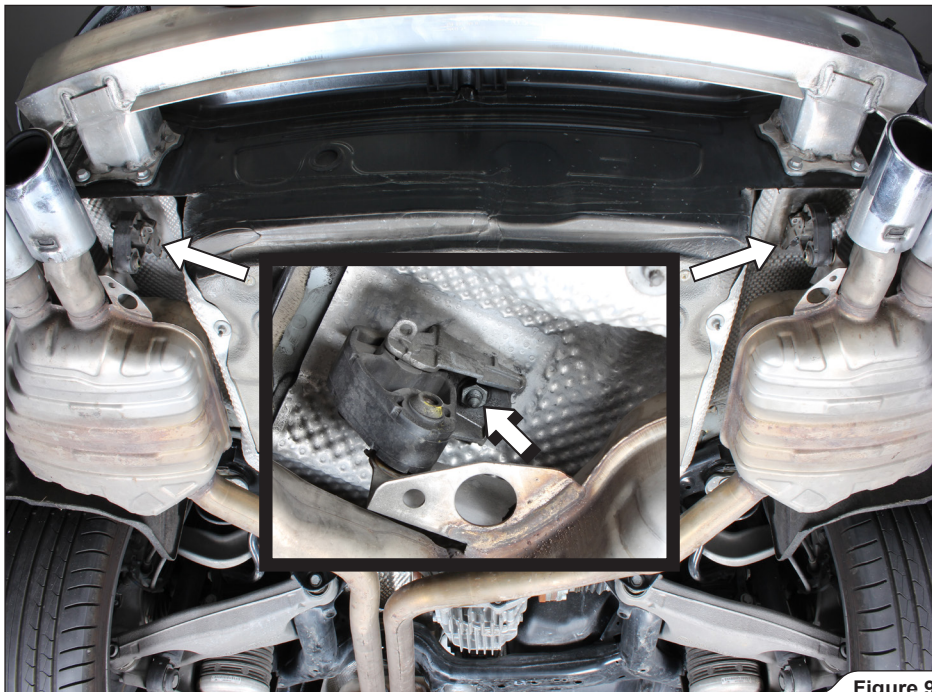

Figure 9
- Support the mufflers, unscrew the marked bracket nuts, pull the pre-muffler's rubber brackets off the pins and carefully remove the mufflers off the vehicle (**Figure 9, 10**).